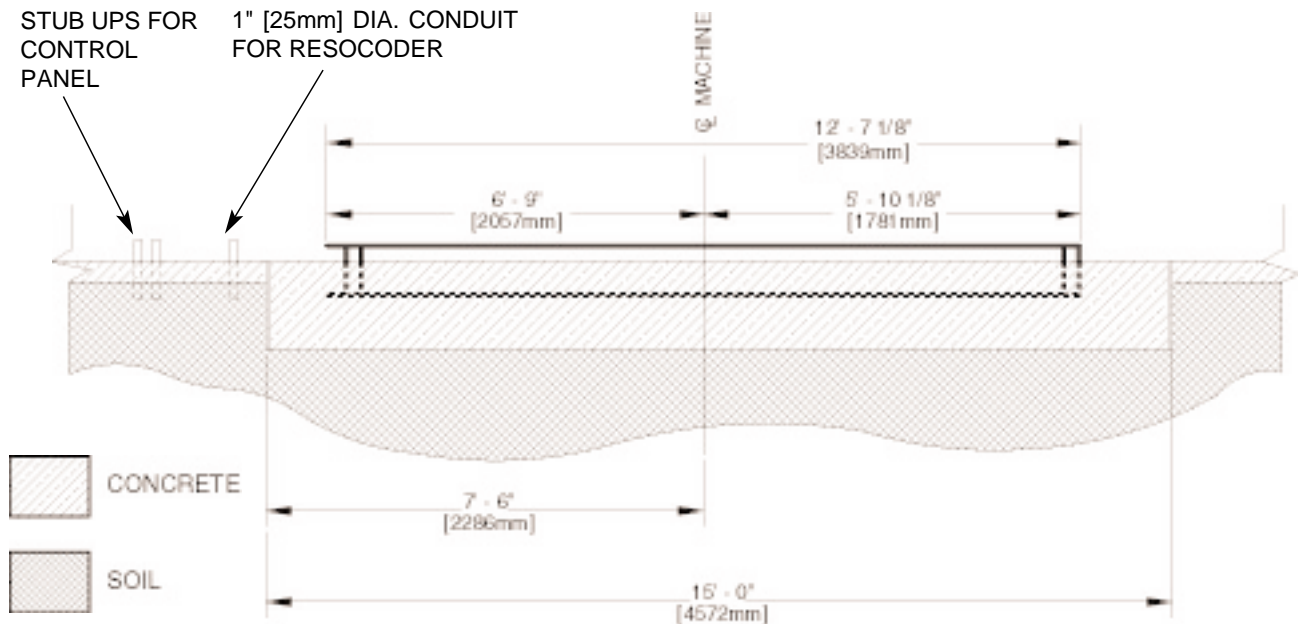

Figure 1.2 FRONT ELEVATION.
**IMPORTANT!** The centerline of the machine is not the same as the center of the concrete slab. The centerline of the block machine is offset to one side of the foundation (see figure 1.2).
**Note:** The centerline of the machine **is not** the same as the center of the concrete slab. The centerline of the block machine is offset to one side of the foundation as shown in figure 1.2.